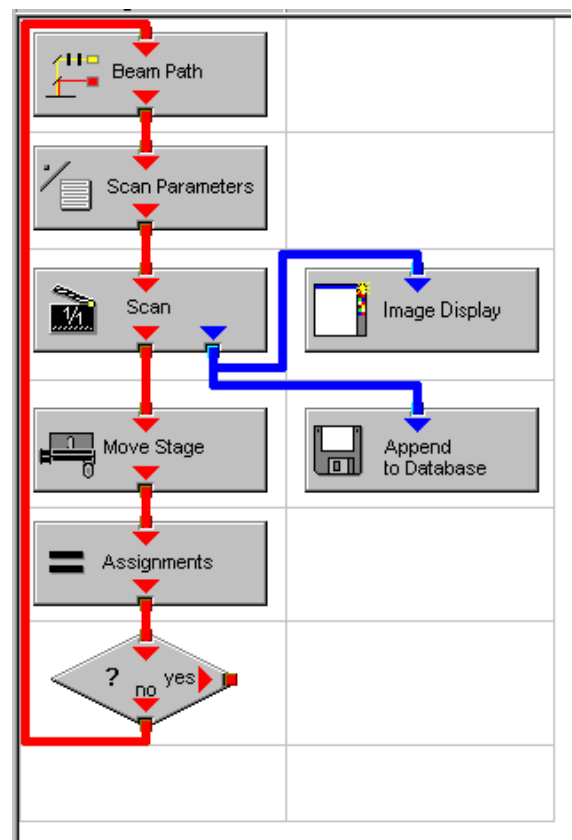

Fig. 4-191 Arrangement of action blocks
- Arrange and connect the action blocks (Fig. 4-191).